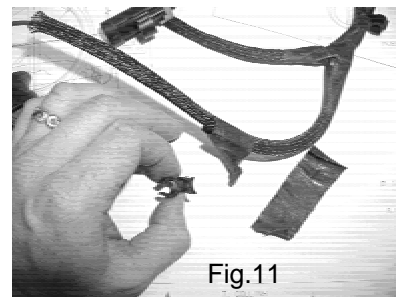

Fig.11
- 2) The rear coolant vent line on 1997-2000 Corvette and 1998-2000 Camaro/Firebird, located in the valley, must be replaced to clear your new high performance manifold. Replace with GM part number 12568478 front only crossover, and (2) 12563325 plugs. Torque vent pipe bolts to 12 N/m (106 in/lbs).
- 3) Remove plastic clips from knock sensor wire harness by unwrapping tape. Discard (fig.11).